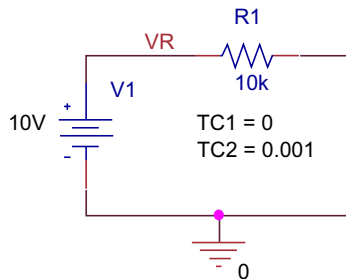

FIGURE 15.9
6. Reset TC1 to 0 and add and display the quadratic temperature coefficient, TC2 with a value of 0.001 (Figure 15.9) and resimulate; but this time, rather than add in the trace expression, you can call up and restore the last display automatically.